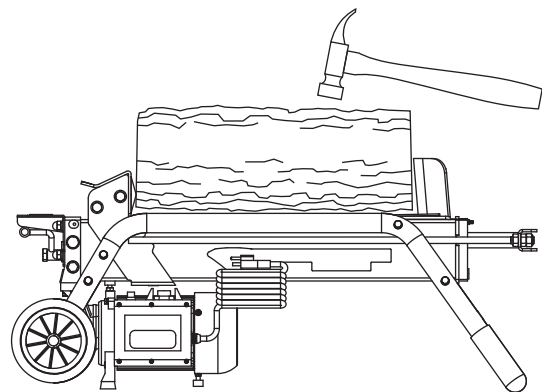

Figure 7
**DO NOT TRY TO KNOCK THE JAMMED LOG OFF THE WEDGE USING A HAMMER OR OTHER DEVICE. (SEE FIGURE 7)**